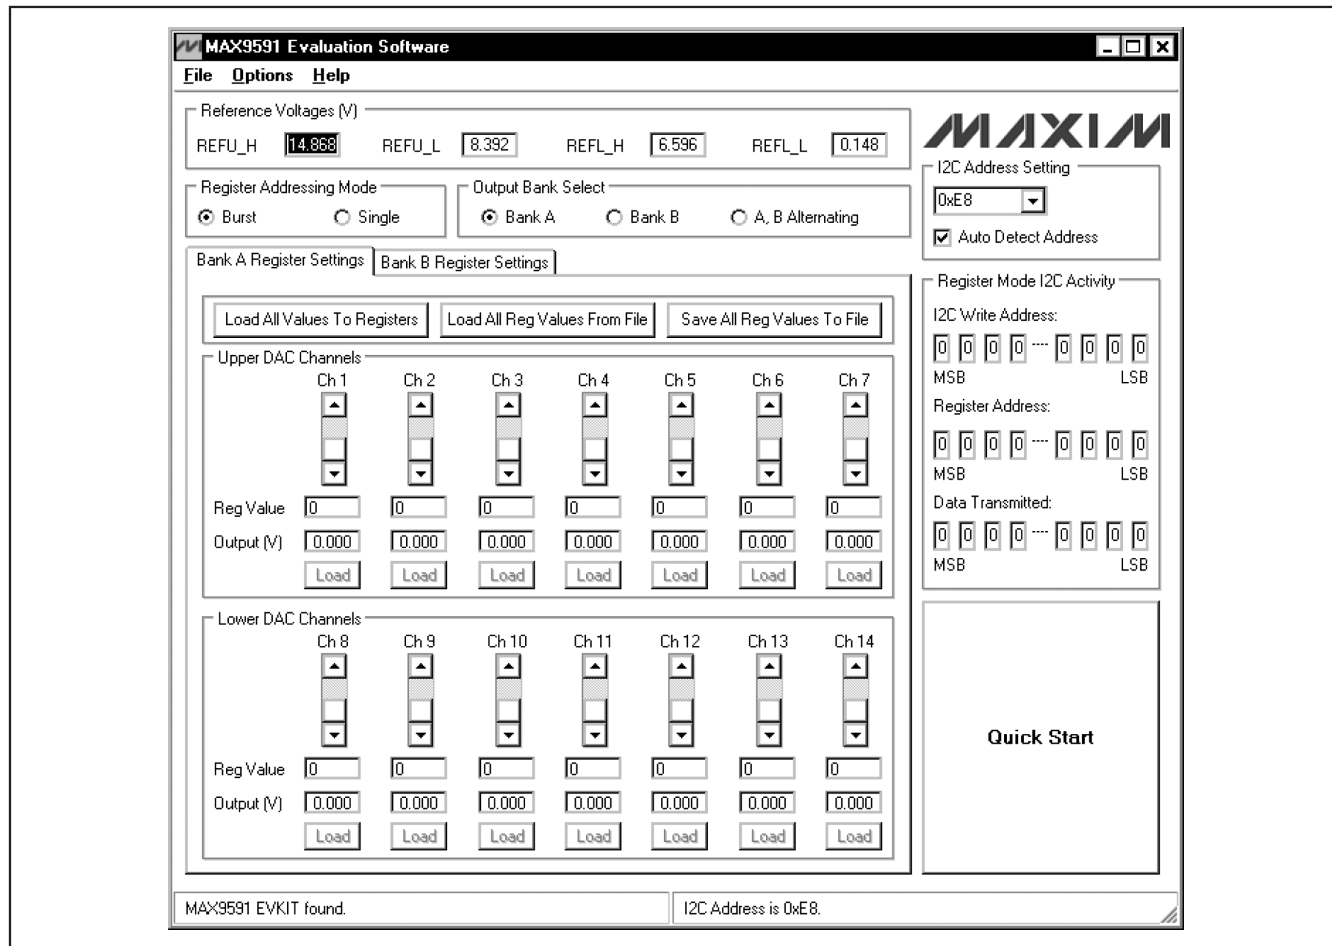

Figure 1. MAX9591 Evaluation Software Main Window
- 13) Start the MAX9591 EV kit software by opening its icon in the **Start | Programs** menu. The EV kit software main window appears, as shown in Figure 1.
- 14) Use the DVM voltage probe to measure the reference input voltages on the REFU_H, REFU_L, REFL_H and REFL_L PCB pads, and type those values into the corresponding edit boxes of the **Reference Voltages (V)** group box.
- 16) Use the DVM voltage probe to verify that the DAC output voltages are close to the voltages shown in the **Output (V)** edit boxes for the respective channel.
The MAX9591 evaluation kit (EV kit) software main window is shown in Figure 1. The GUI software automatically detects the MAX9591 device address and displays it in the **I2C Address Setting** drop-down list and in the software status bar. The DAC output voltages in the **Upper DAC Channels/Lower DAC Channels** group boxes are calculated using the upper and lower reference input voltages on PCB pads REFU_H, REFU_L, REFL_H, and REFL_L. The reference input voltages **MUST** be measured at the appropriate PCB pads and the values entered in the respective **Reference Voltages (V)** edit boxes for the DAC output calculations to be correct.